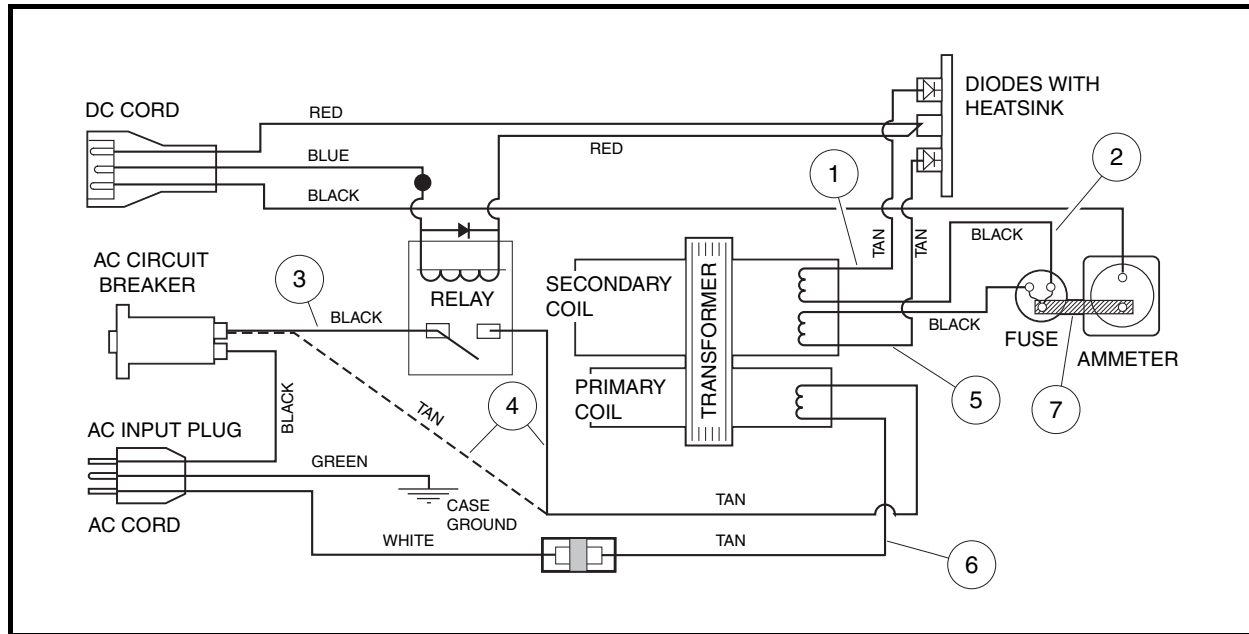

Figure 8-20 IQ Plus Charger Wiring Diagram (Relay Bypassed)
- 4.1. To bypass the relay, remove the black wire (3) from the AC circuit breaker and disconnect the tan wire (4) from the relay. Connect the tan wire (4) to the AC circuit breaker (Figure 8-20, Page 8-30). See following DANGER.
8. Disconnect the transformer wire (4) from AC circuit breaker and connect it to the relay. Connect the short black wire (3) from the relay to the AC circuit breaker (**Figure 8-20, Page 8-30**). **See following WARNING.**